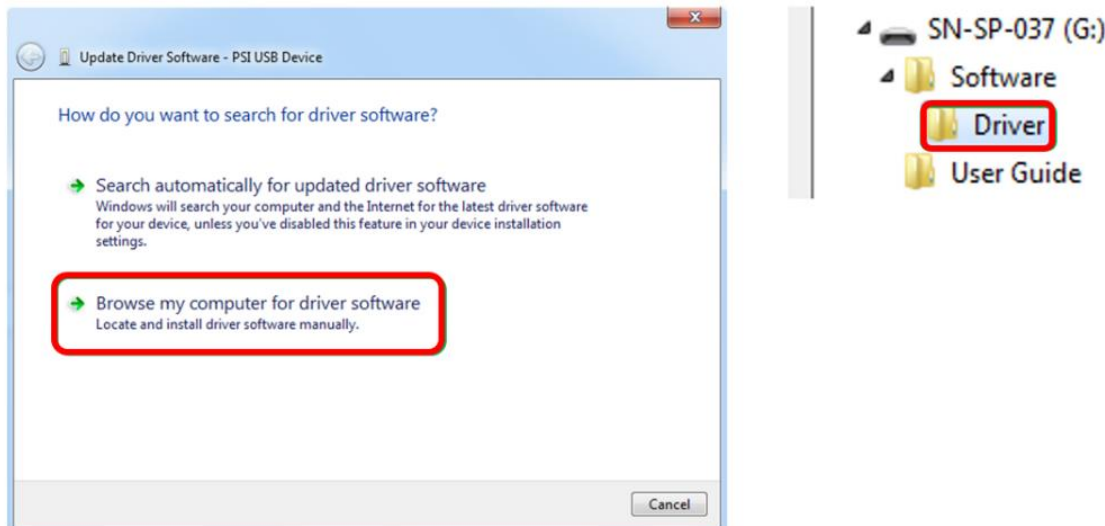

Fig. 18 Choose the driver from the USB disc.
- Click **Browse** my computer for driver software and select Driver folder on the SpectraPen installation disk. Allow the installation even if the warning message appears (Fig. 18)